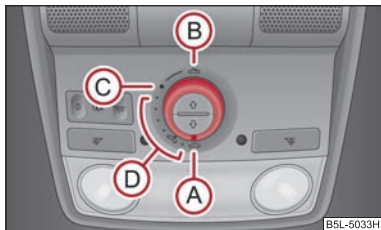

Fig. 34 Control dial for the panoramic sliding roof
The panoramic sliding roof with sun screen can only be operated with the control dial when the ignition is switched on ⇒ fig. 34. The control dial has several positions.
- Turn the switch to position **C** ⇒ fig. 34.
- Turn the switch to position **A** ⇒ fig. 34.